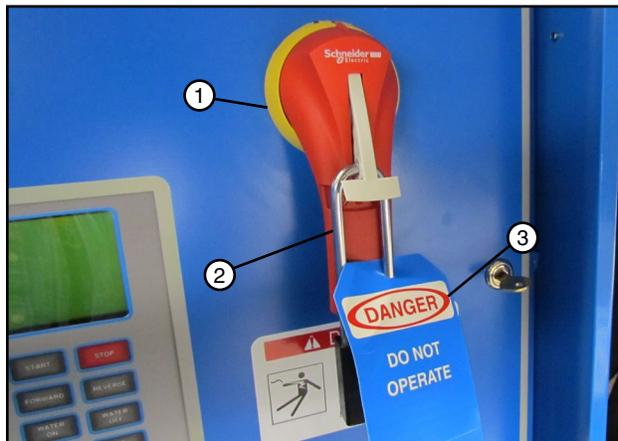

Figure 88-2 1. Main Disconnect
2. SHUT OFF and lock the control panel main power disconnect. See Figure 88-2.
FILL OUT the blue (OSHA safety color code) tag and attach to the disconnect after locking. See Figure 88-2.